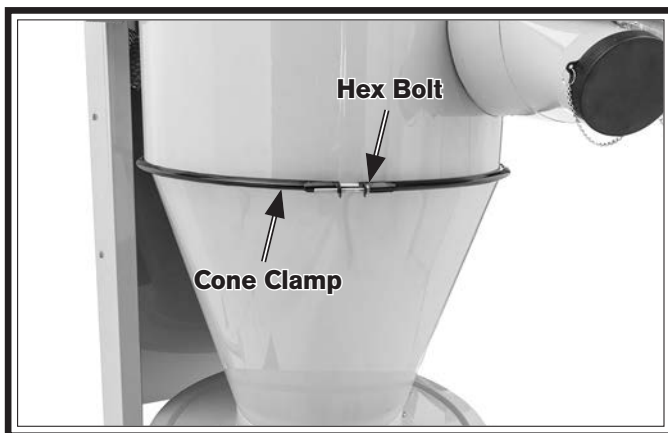

Figure 19. Cone attached to housing assembly.
12. Attach cone to housing assembly with cone clamp, then tighten pre-installed hex bolt to secure (see **Figure 19**).